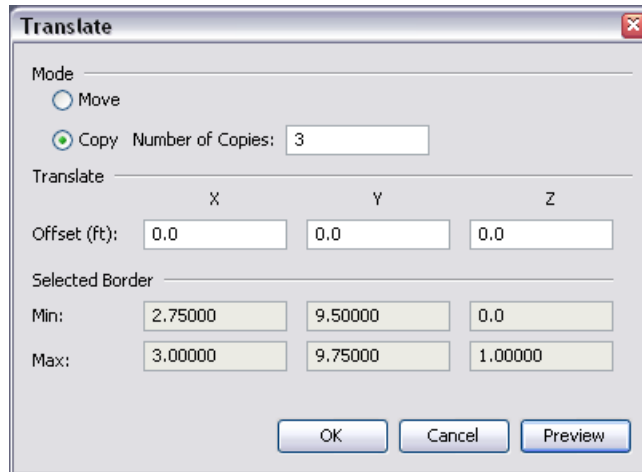

Figure 108. The translate dialog
3. This will show the Translate dialog, Figure 108.